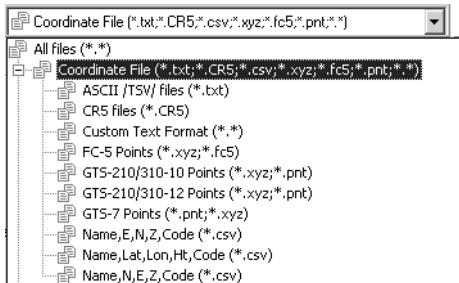

Figure 3-9. Coordinate File Formats
- The file format (Figure 3-9).